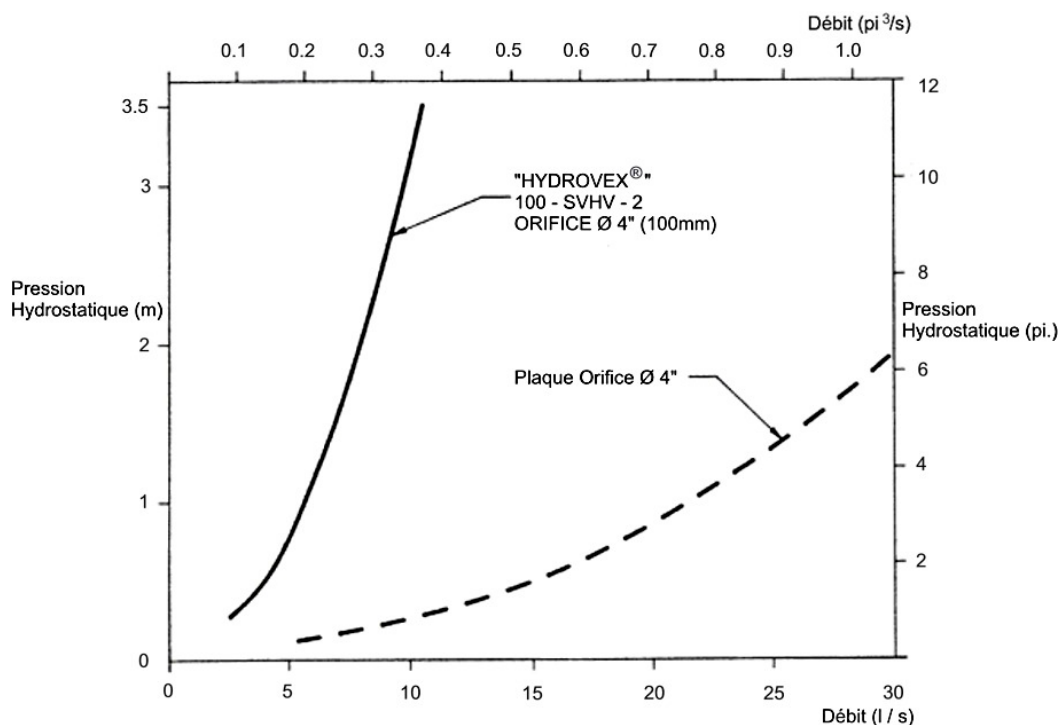

FIGURE 2: DISCHARGE CURVE SHOWING A HYDROVEX® FLOW REGULATOR VS AN ORIFICE PLATE
- The geometry of the VHV/SVHV allows for flow control equivalent to an orifice plate with a cross-sectional area 4 to 6 times smaller. This reduces the chances of the regulator blocking due to accumulated sediment and large debris encountered during a storm. Figure 2 shows the comparison between a Model 100 SVHV-2 regulator and an equivalent orifice plate. It can be seen that for the same water height, the regulator controls a flow rate approximately four times smaller than an equivalent orifice plate.